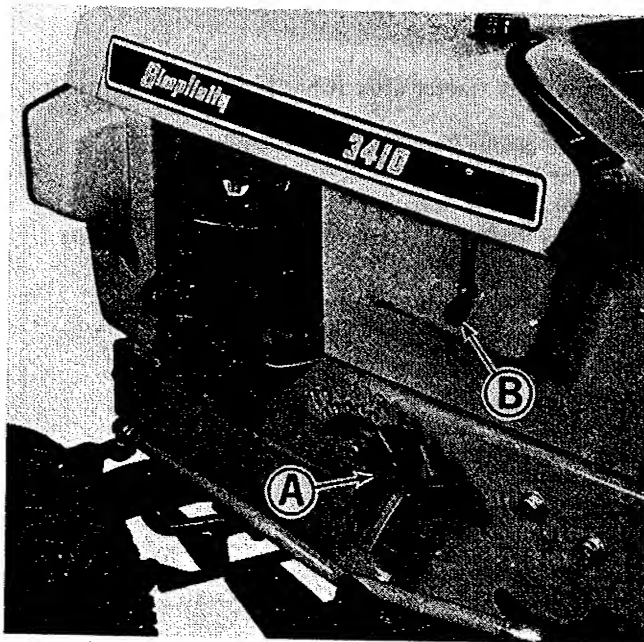
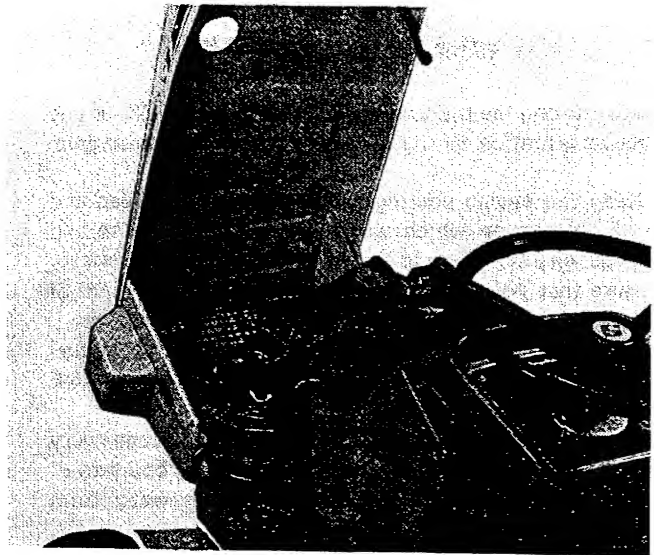

Figure 6. Left side of tractor.
Figure 7. Tractor hood raised for easy access.
See figure 6. The tractor hood is hinged at the front by two springloaded bolts. It may be easily opened by releasing the two rubber straps (B) located on either side of the hood. Pull down and out on the straps to release them. See figure 7. Lift upward on the back of the hood to raise it as shown. The hood raised in this position provides easy access to the generator, battery, fuel tank, engine, etc.